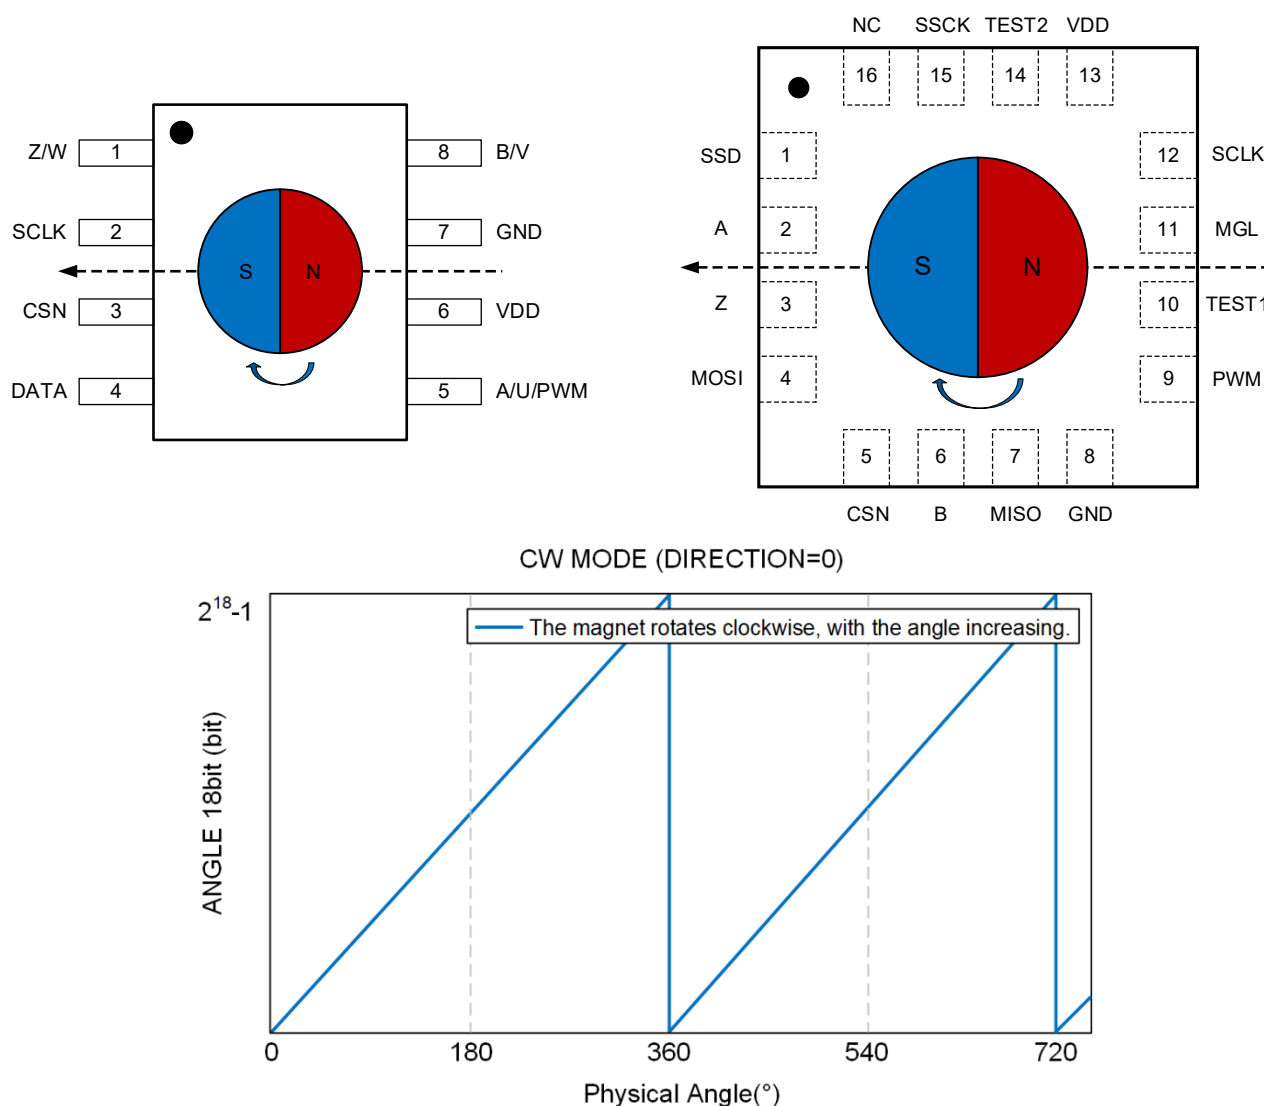
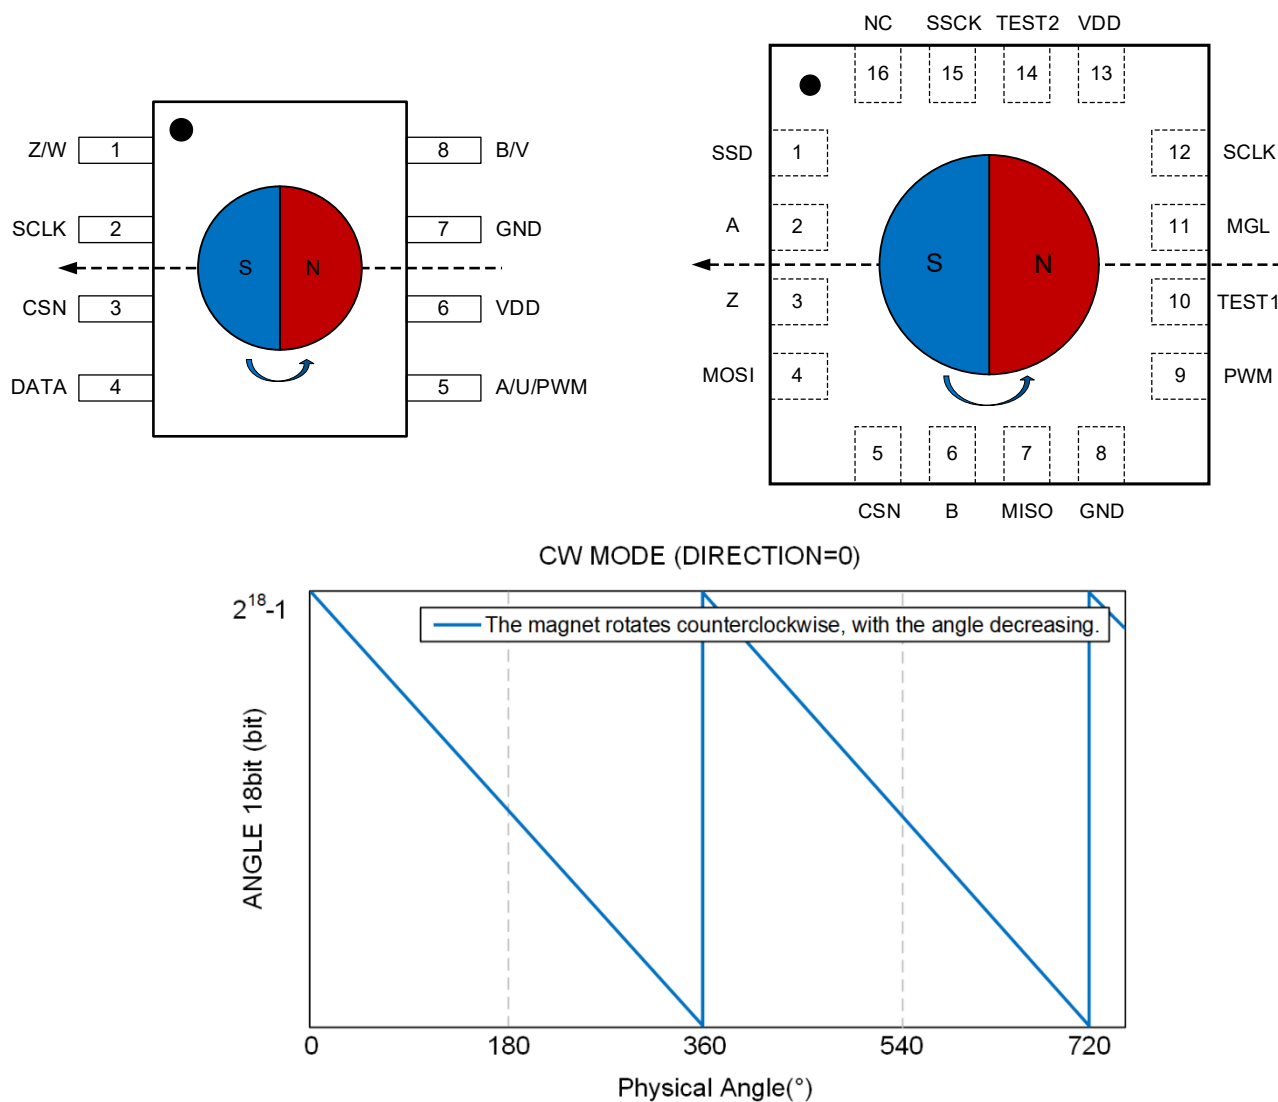
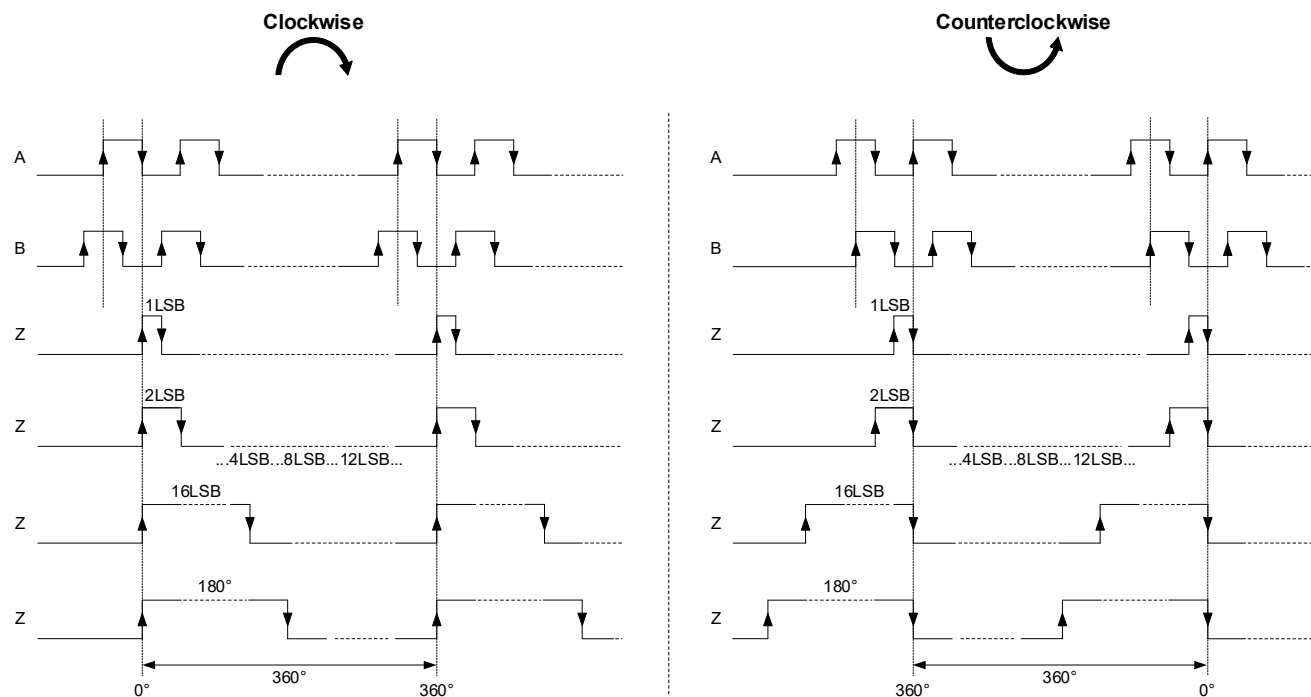

Figure 5. CW Mode: The Magnet Rotates Clockwise. Magnet-Chip Relation and Angle Output
Figure 6. CW Mode: The Magnet Rotates Counterclockwise. Magnet-Chip Relation and Angle Output
Figure 7. ABZ Signal Output Diagram (Z Pulse Width Optional: 1/2/4/8/12/16LSB/180°)
With the magnet mounted directly above the chip and centers aligned, Figure 5 shows the top-view schematic and output data versus angle during clockwise rotation, while Figure 6 displays the same for counterclockwise rotation.
Figure 7 illustrates the output signals of A, B, and Z during clockwise (CW)/counterclockwise (CCW) magnet rotation. For CW rotation (refer to Figure 5), the A signal lags the B signal by a quarter-period. For CCW rotation (refer to Figure 6), the A signal leads the B signal by a quarter-period. The Z signal indicates the 0° angular position, generating one pulse per 360° magnet rotation. The Z-signal high-level pulse width is user-programmable via register Z_WIDTH[2:0] to achieve specific duty cycle requirements. Alternatively, the Z high-level width can be set to 180°, where one complete Z pulse cycle (high + low states) constitutes a 360° signal output.